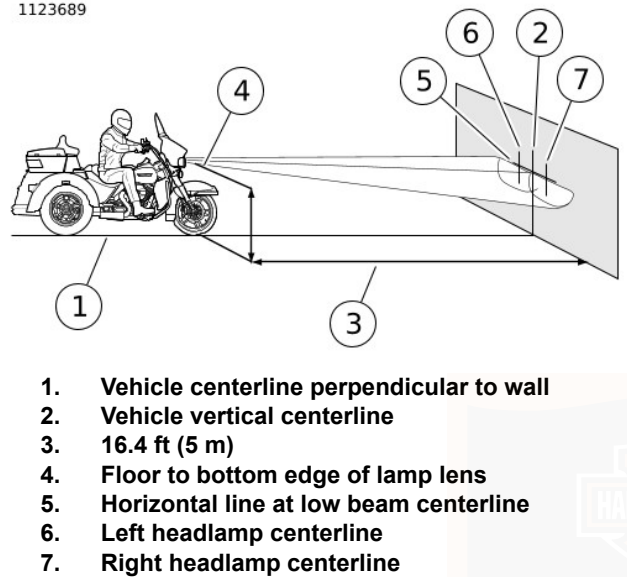

Figure 95. Headlamp Alignment: Dual LED
See Figure 95. Park the motorcycle on a line (1) perpendicular to the wall.